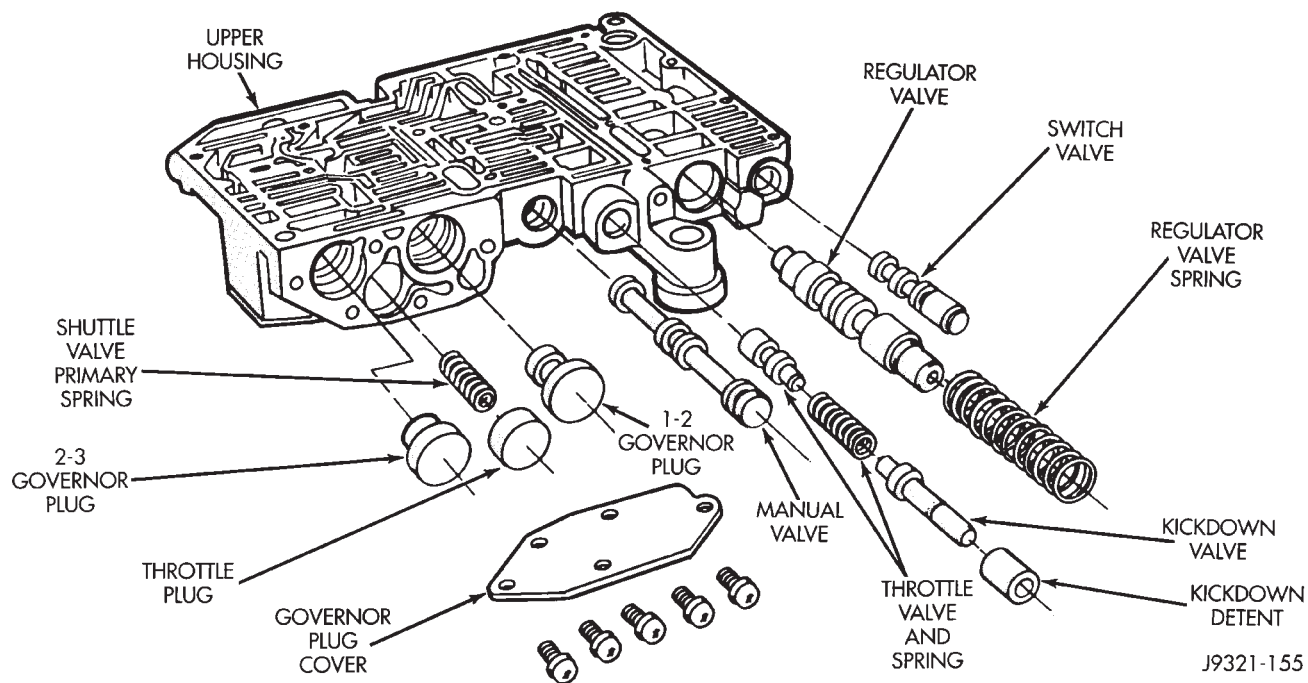

Fig. 57 Upper Housing Control Valve Locations
(22) Turn upper housing over and remove switch valve, regulator valve and spring, and manual valve (Fig. 57).
(23) Remove kickdown detent, kickdown valve, and throttle valve and spring (Fig. 57).
(6) Remove throttle plug and 1-2 and 2-3 governor plugs (Fig. 57).